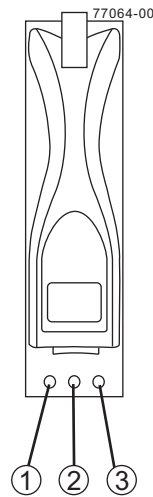

Figure 4.1 Drive Status LEDs
- You locate the failed drive by checking the LEDs on the drive (see *Figure 4.1, Page 15*).
If a fault is detected, the amber Drive Service Action Required LED is on. If you can safely remove the drive, the blue Service Action Allowed LED is on (see *Figure 4.1, Page 15*).
8. Look at the Drive Power LED and Drive Service Action Required LED (see *Figure 4.1, Page 15*). Based on the LED status, perform one of these actions: